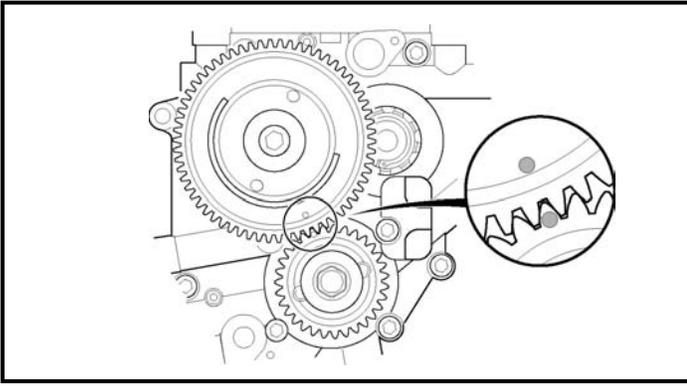

Figure 4
- K. If necessary, place transmission in high gear and turn rear wheel to rotate engine until timing mark on crankshaft gear is in position. See Figure 4.
- L. Place drive gear key in rear camshaft. Position cam drive gear on rear camshaft and key with timing mark outward. Rotate drive gear and camshafts until drive gear and crankshaft gear timing marks are aligned. See Figure 4.